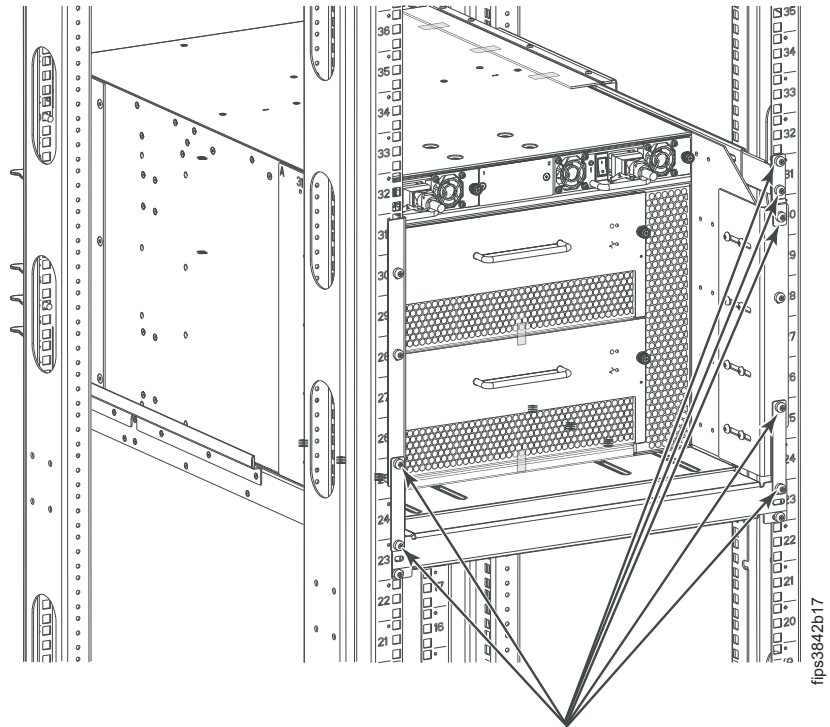

Figure 49. Three 2499-416 rackmount FIPS brackets installed on non-port side
2. Use two of the rackmount screws that you removed in step 1 to install the lower left FIPS bracket between the chassis rackmount flange and exhaust kit shelf flange, as shown in Figure 49, then tighten securely. The straight bracket is the lower FIPS bracket.
3. Use three of the rackmount screws that you removed in step 1 to install the upper right FIPS bracket between the chassis rackmount flange and top rail flange, as shown in Figure 49 on page 47, then tighten securely. The bracket with the slight bend is the upper FIPS bracket.
4. Use the remaining two rackmount screws that you removed in step 1 to install the lower right FIPS bracket between the chassis rackmount flange and shelf flange, as shown in Figure 49 on page 47, then tighten securely. The straight bracket is the lower FIPS bracket.